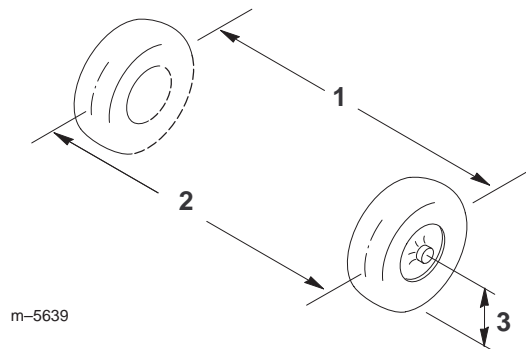

Figure 46
2. Measure the distance between both of the front tires at the axle height at both the front and rear of the front tires (Fig. 46).